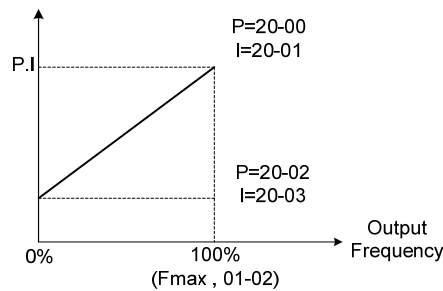

Figure 4.4.116 ASR gain setting (V/F+PG)
In V/F+PG mode, set the proportional (P) gain and integral (I) time at the minimum output frequency (20-02 and 20-03) and maximum output frequency (20-00 and 20-01). Refer to the figure 4.4.116.